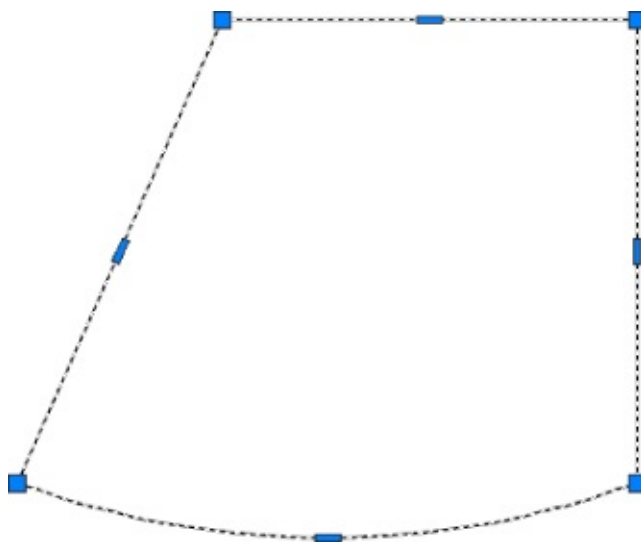

Figure 5.39 The highlighted segments will be erased after using the AutoCAD Erase tool.
- If a series of parcel segments was originally created from a polyline (or similar parcel layout tools, such as the Tangent-Tangent With No Curves tool), the AutoCAD Erase tool erases the entire series of segments (see Figure 5.39).